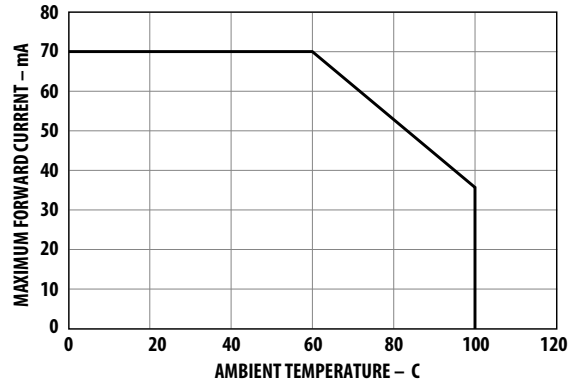

Figure 4. Maximum forward current vs. ambient temperature. Derated based on  $T_{j,MAX} = 125^{\circ}C$ ,  $R_{\theta JA} = 300^{\circ}C/W$
- Derate linearly as shown in figure 4.